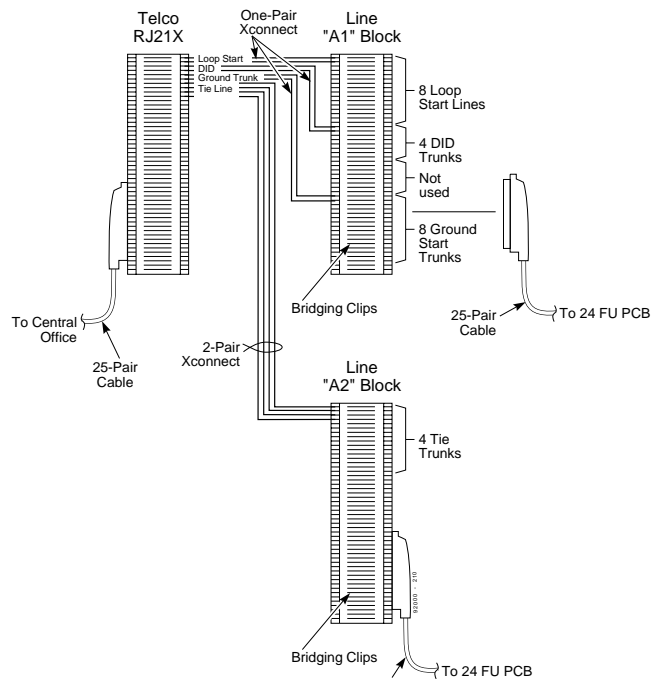
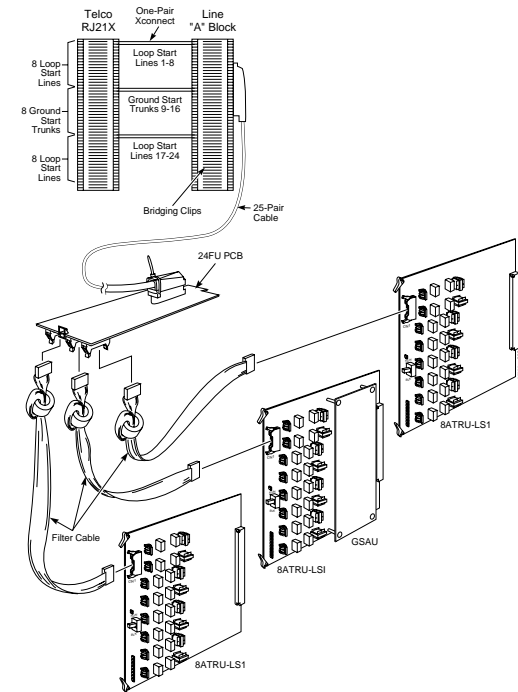

Figure 3-6 TYPICAL TRUNK/LINE INSTALLATION
Figure 3-7 INSTALLING GROUND START TRUNK/LOOP START LINES
### Installing Ground Start Trunks/Loop Start Lines (Figures 3-6 and 3-7)
1. Punch down one pair cross-connect to the tip and ring leads for each line on the telco RJ21X CPE (customer) side of the block, (Figure 3-6).
2. Punch down the other end of the cross-connect to the line (A) block (in groups of 8 lines of the same line type).
3. Punch down a 25-pair cable to the opposite side of the line (A) block.
4. Plug a 25-pair connector into the corresponding 24FU filter unit (Figure 3-7).